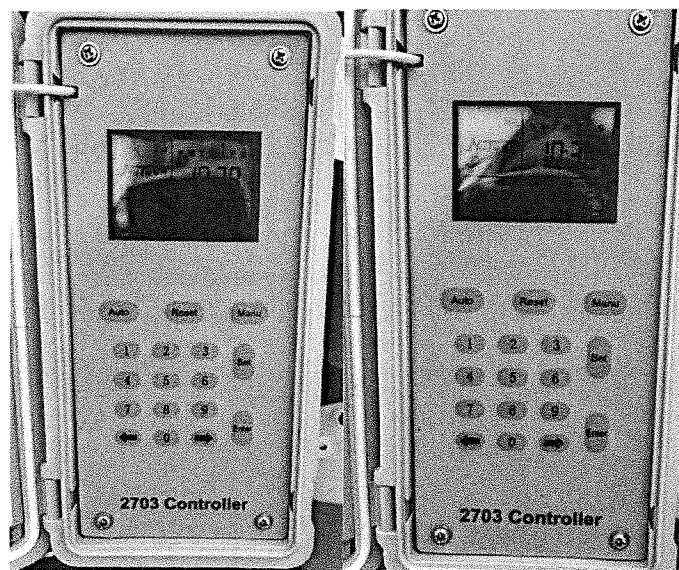

Figure 20: Open and closed screens of the Nutech 2703 controller.
- At the end of the sampling period, the Nutech 2703 controller will shut off automatically at 24 hours. The Open status will change to Closed (Figure 20). Note: The Nutech 2703 will instantly go into a sleep mode once the sample has stopped. To wake the controller, press Enter.